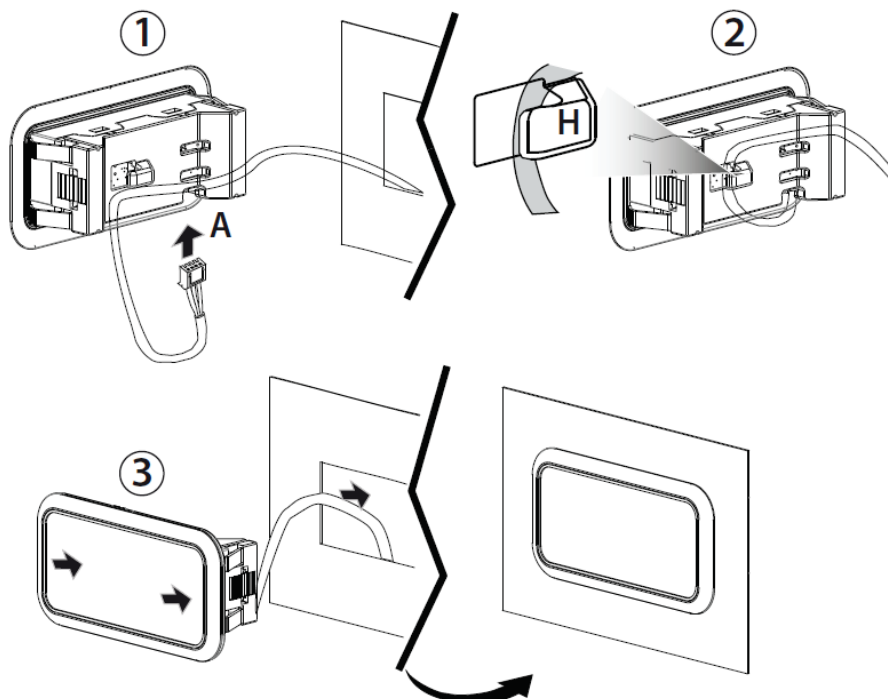

Fig. 3
1. Insert the cable from the electrical panel into point A (Fig.3);